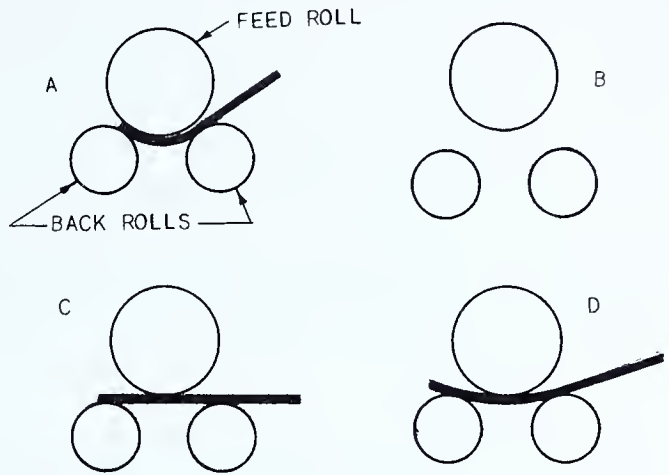

FIG. 206 — *Adjusting Rolls for Rolling*
1. Turn the left control handle to the "out" position and cause the feed roll to "open up" as shown in Fig. 206 at *B*.
4. Slide the plate between the feed roll and the back rolls as shown at *C* in Fig. 206.
5. Turn the left control handle to the "in" position and cause the feed roll to "close up" as shown in Fig. 206 at *D*, so that the plate is under pressure.